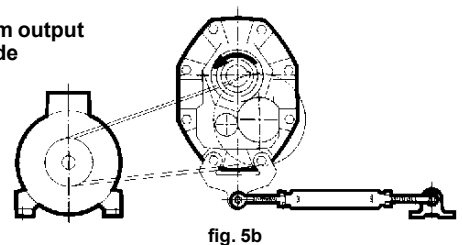

fig. 5b
- section B for counter-clockwise rotation (fig. 5b).